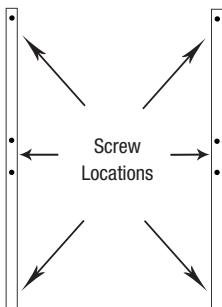

Figure 1
STEP 2: After locating the studs mount the 24" Single Track Standards using the 2" Screws, as shown in **Figure 1**. Use a level to ensure the standards are straight.